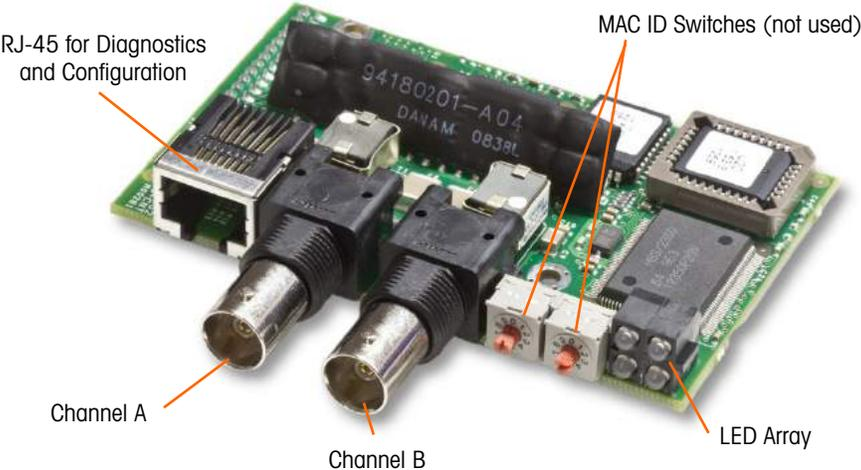
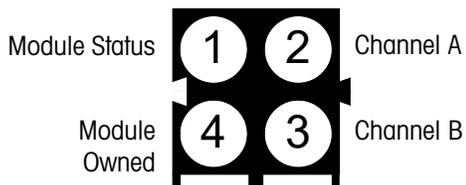

Figure A-99: ControlNet PLC Module Connections and Components
Figure A-100: ControlNet Status Indicator LEDs
The ControlNet PLC Module (Figure A-99) connects to the ControlNet network via one or two coaxial cables (Figure A-101). Channel B is redundant with Channel A, and is not used unless ControlNet detects no signal on Channel A. Note that the module's address is set in software, and the MAC ID switches indicated in Figure A-99 are not used.
- Do **not** plug an Ethernet cable into the RJ-45 connector shown at left in Figure A-99. Damage to the IND780 may result.
Figure A-100 shows the array of status indicator LEDs on the ControlNet card (see also Figure A-99).